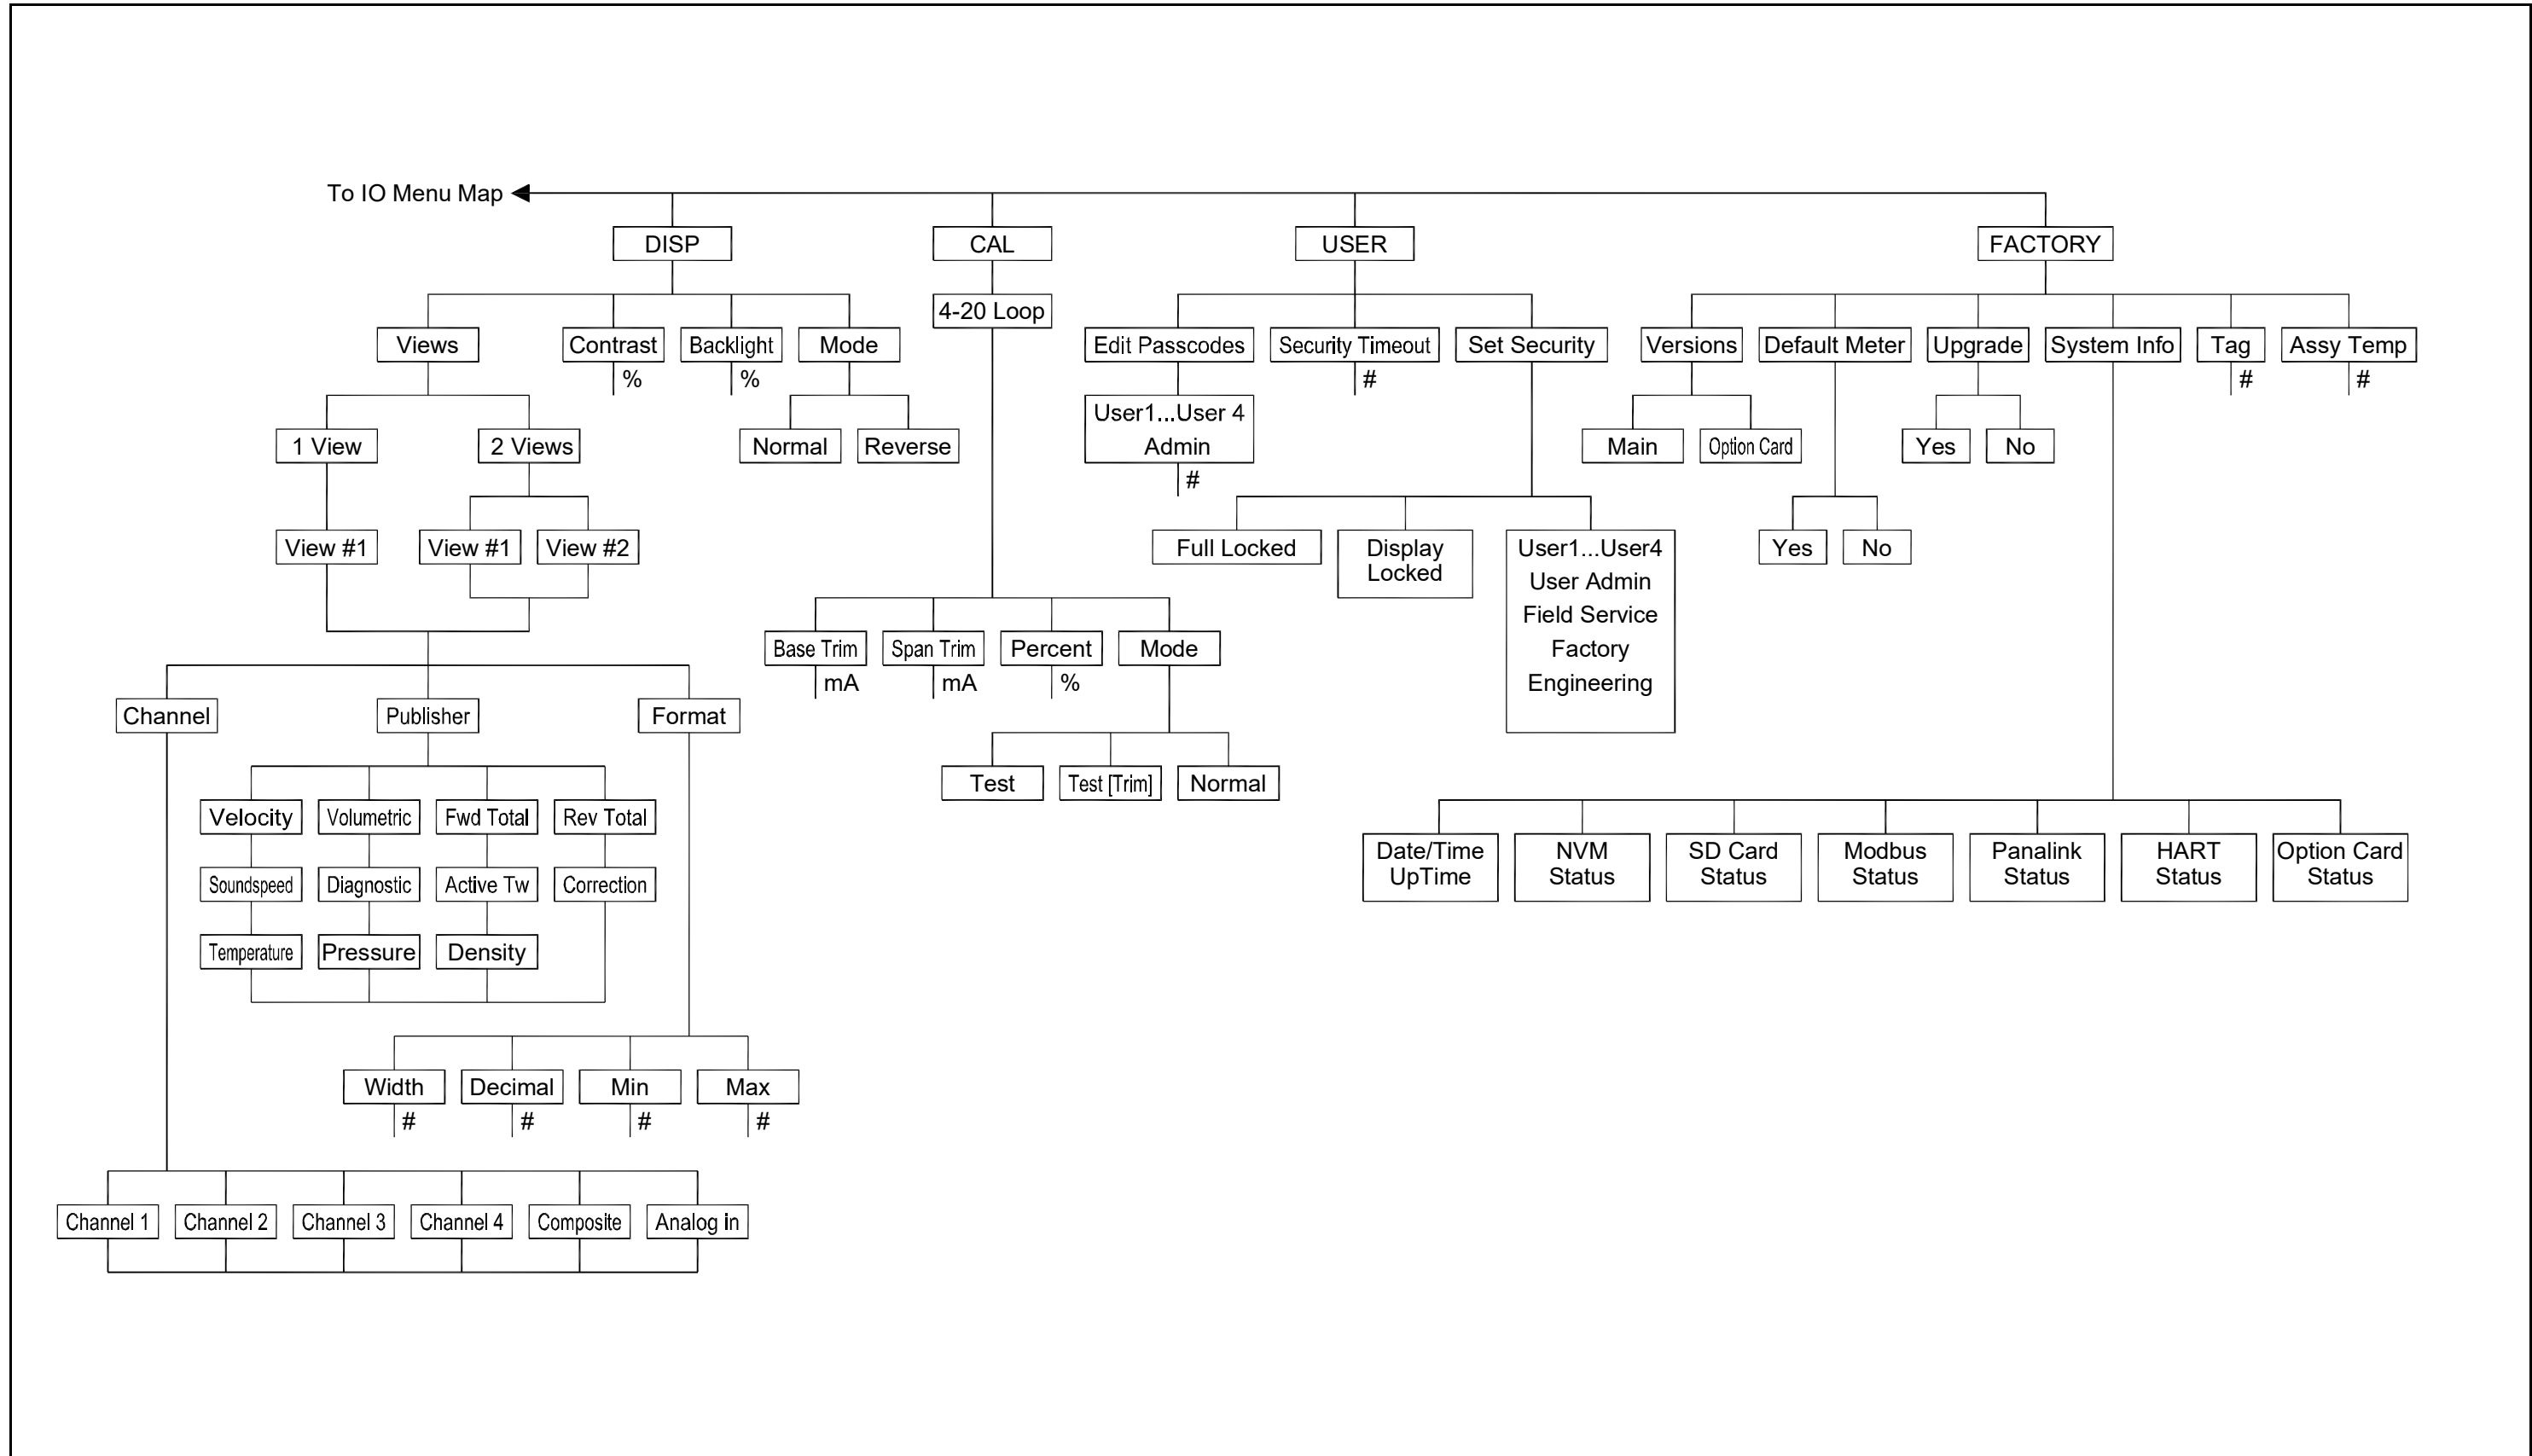

Figure 236: DISP, CAL, USER, and FACTORY Menu Map
- Figure 236: DISP, CAL, USER, and FACTORY Menu Map